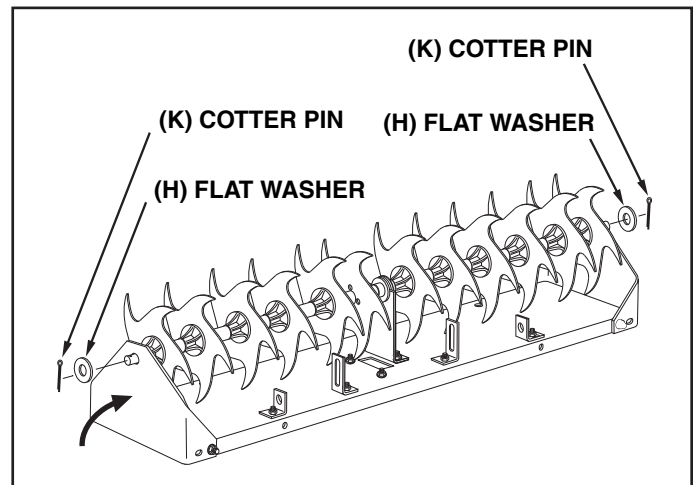

FIGURE 6
9. Pivot the end plate up onto the end of the axle. See figure 6.
10. Assemble a flat washer(s) (H) and a cotter pin (K) to one end of the axle. Use as many washers as needed to eliminate any gaps between the parts on that end of the axle. See figure 6.
11. Repeat the procedure for the other end of the axle. See figure 6.